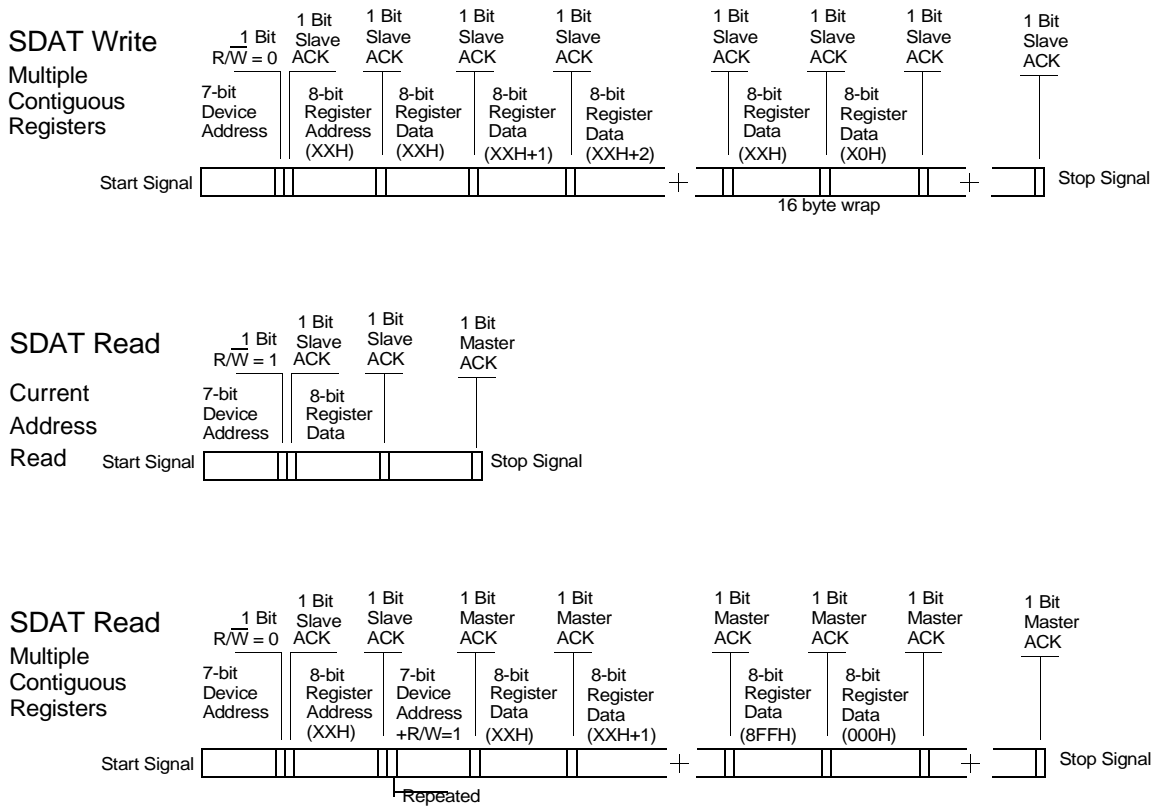

Figure 4. Data Frame Architecture
Start Bit; 7-bit Device Address (DA); R/\bar{W} Bit; Slave Clock Acknowledge (ACK); 8-bit Memory Address (MA); ACK; 8-bit Data; ACK; 8-bit Data in MA+1 if desired; ACK; 8-bit Data in MA+2; ACK; etc. until STOP Bit. The basic serial format is illustrated in *Figure 4*.